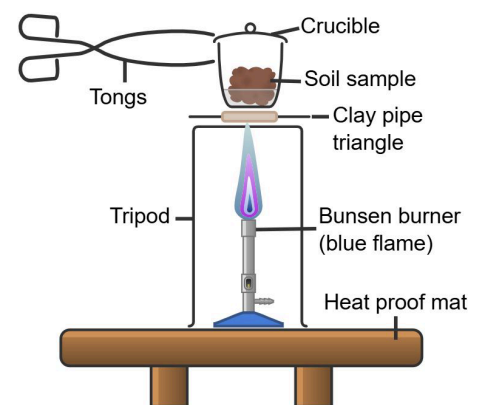

Figure 30 OM% LOI apparatus
6. Set up Bunsen burner, heat proof mat, tripod and clay-pipe triangle and crucible as seen in Figure 30.